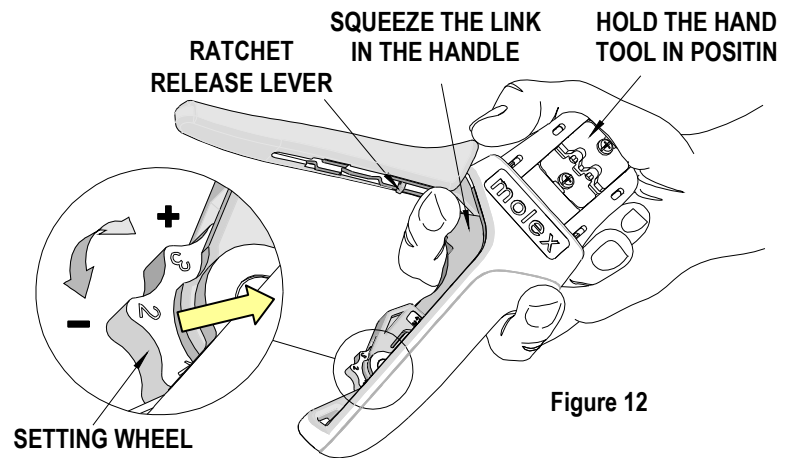

Figure 12
(See Figure 12)
1. Hold the hand tool in the palm of your hand as shown in Figure 12. Using the index finger squeeze the link towards the top of the hand tool frame. This will release the preload adjustment wheel.
2. Rotate the setting wheel counter-clockwise (CCW) to increase handle force. The numbers will display higher. To decrease handle force rotate the setting wheel clockwise (CW).